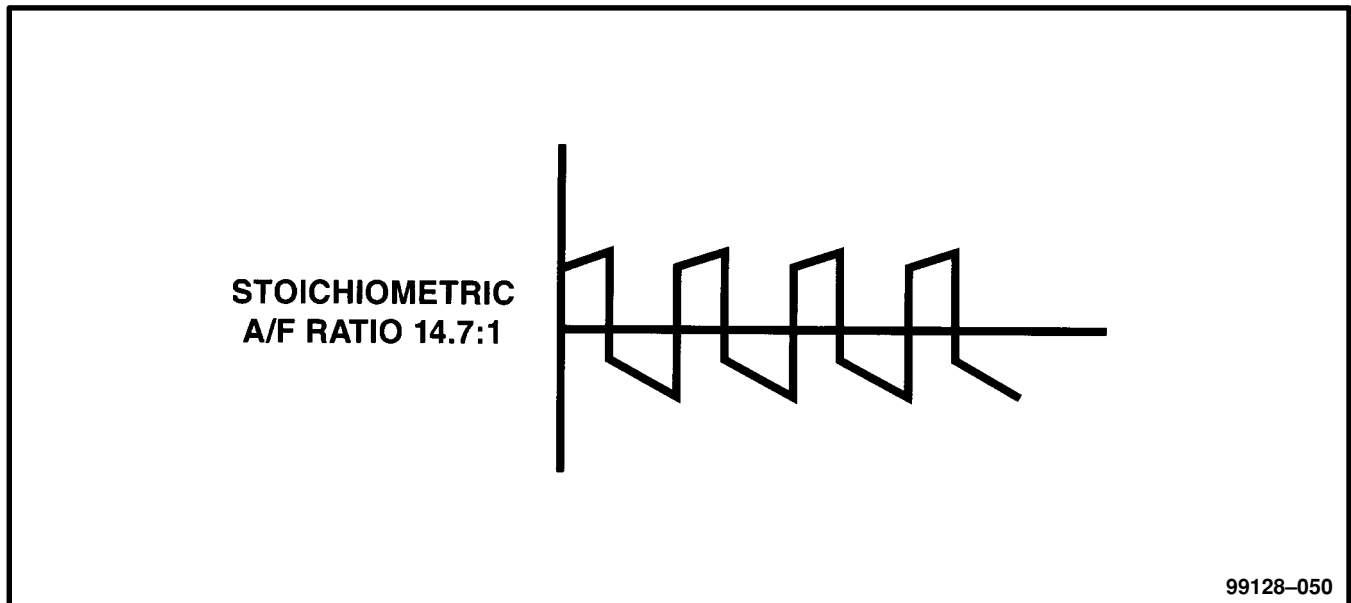

Figure 50 Short-Term Fuel Compensation
As mentioned earlier, when the fuel system goes into closed-loop operation, two adaptive memory systems begin to operate. The first system that becomes functional is called Short-Term Adaptive Memory or Short-Term Correction (fig. 50). This system corrects fuel delivery in direct proportion to the readings from the upstream O2 Sensor. In other words, as the Air/Fuel (AF) mixture changes, the O2 Sensor voltage tells the PCM that the AF ratio contains either more or less oxygen. The PCM then begins either to add or remove fuel until the O2 Sensor reaches its switch point. When the switch point is reached, Short-Term Correction begins with a quick change (kicks). Then it ramps slowly, until the O2 Sensor output voltage indicates the switch point in the opposite direction. Short-Term Adaptive Memory will keep increasing or decreasing injector pulse width, based upon the O2 Sensor input. The maximum range of authority for short-term memory is  $\pm 33\%$  of base pulse width.